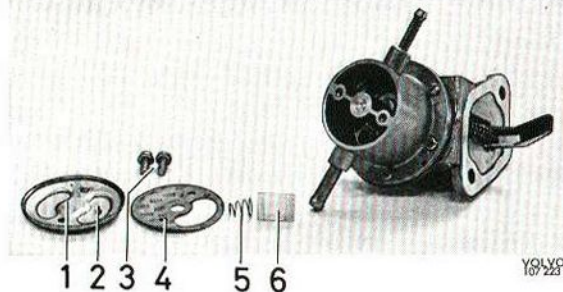

Fig. 2-143. Fuel pump, S.E.V.
1. Remove the cover (1, Fig. 2-143), the spring (5) and the seal (4).
3. Remove the filter (6) and blow it clean or replace it.
4. Fit the filter. Place the seal in position with the open part over the filter. Place the spring (5) in position and fit the cover with the boss (2) facing the spring.